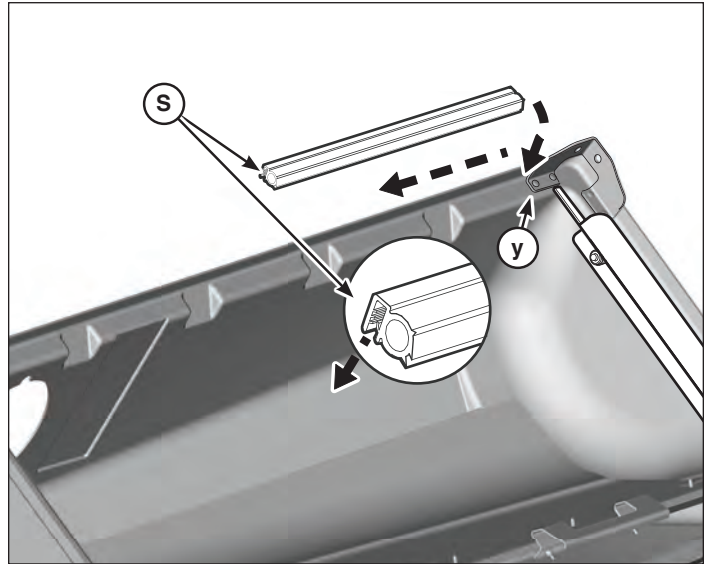

Figure 22
- Slide cover edging (S, Figure 22) onto cover, starting from the edge of hinge (y).